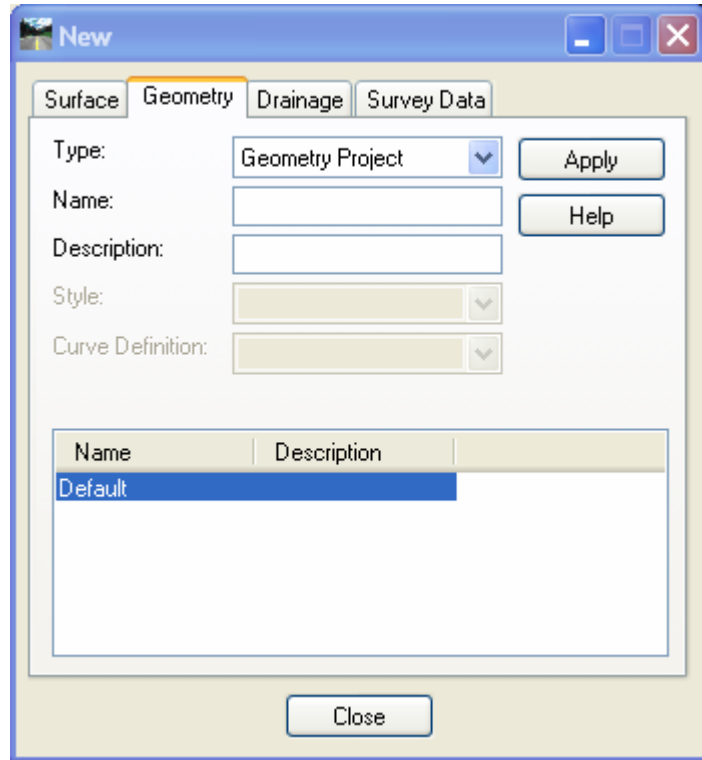

Figure 1-7 InRoads New Dialog Box
- C. Click to **File > New** to create a name your geometry project. This command shown in Figure 1-7 does not create an actual file it only creates an internal name for the Geometry Project.